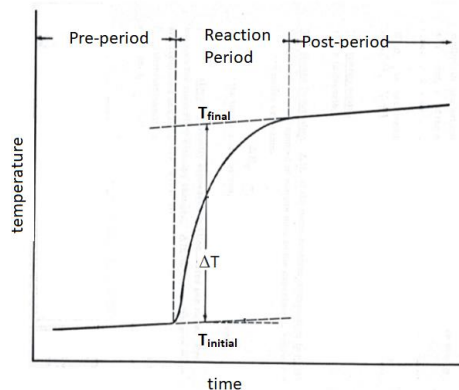

Figure 8. 4 Thermogram of an exothermic combustion reaction
3. Make thermograms by plotting of temperature versus time, as shown in figure 8. 4 for all three runs.